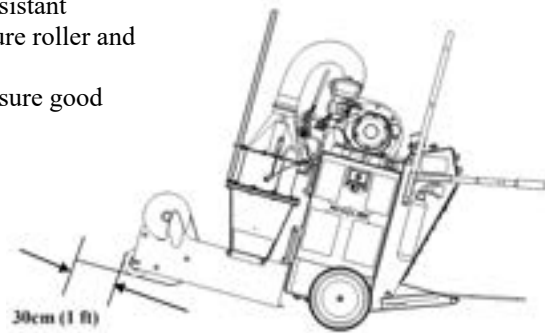

Figure 9
- h. While the operator lifts the pressure roller by pressing down on the handles of the unit, one of the assistant operators runs the membrane under the pressure roller and about 30 cm (1ft) past it. (Fig. 9)